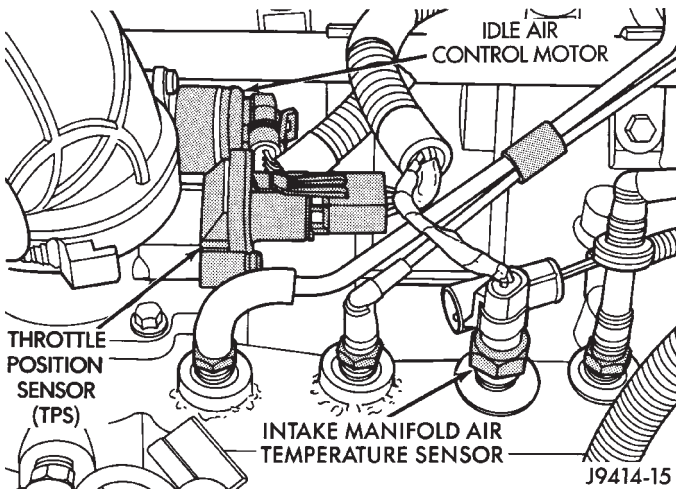

Fig. 19 Sensor Location—4.0L Engine
(17) Verify that intake manifold air temperature sensor wire connector is firmly connected to harness connector (Figs. 19 or 20).
(21) Verify that harness connectors are firmly connected to idle air control (IAC) motor and throttle position sensor (TPS) (Figs. 19, 20 or 24).